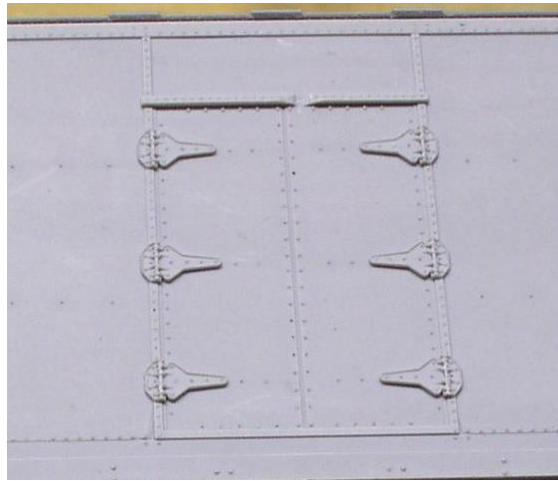

Figure B14
13. If you are using the original plate above the doors, grind enough of the drip strip to allow the top of the door latch bar to fit flush 4" to the right of the centre of the doors. See Figure B14.